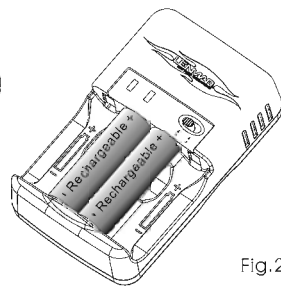

Fig.2
- If you want to charge 2 AA or AAA batteries, install the batteries in the middle two locations and slide the battery selector switch to the "2" position as shown in figure 2.